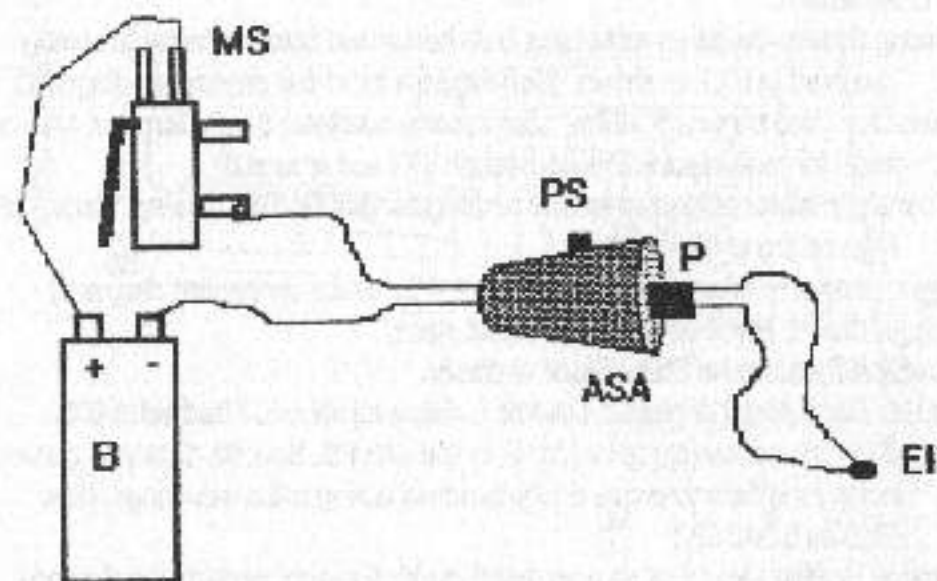

Figure 4: Arming and Firing Circuit Connection Details.
- BT = Barrel/Launch Tube: 1/8- to 1/4-inch thick steel or Dural pipe with 2 1/2-inch internal diameter, and 22- to 30-inch length. The centrally positioned hole in the wall of BT is of a diameter that facilitates the installation of charge holder (CH).
- BX1 = Box Assembly: Plastic or metal. Cut away and modified as shown and secured to BT with hose clip (HC).
- AS = Arming Switch: Switched table lamp bulb holder and holder adapter assembly mounted in BX2 as shown. (See Figure 4 for circuit connection diagram.)
- T = Trigger: Long-arm microswitch. (See Figure 4 for circuit connection diagram.)
- B = Battery: (See Figure 4 for connection details.)